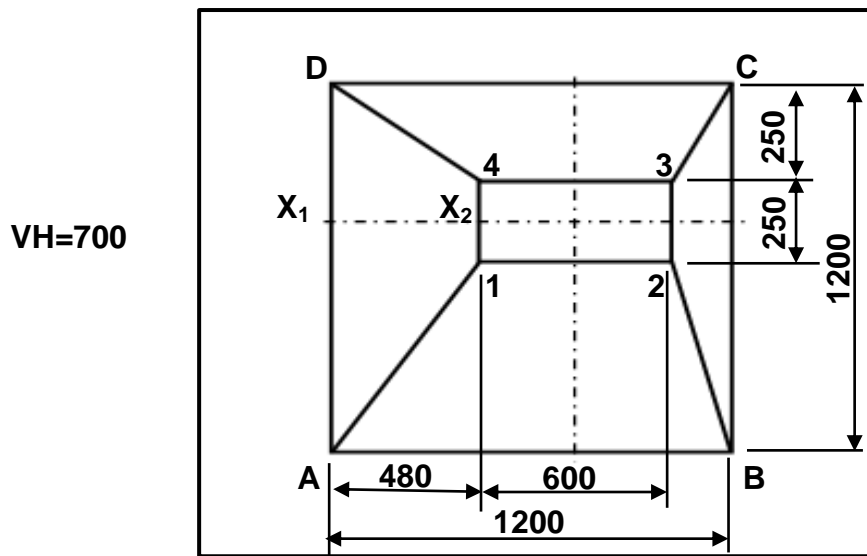

FIGURE 11.3
11.3 FIGURE 11.3 below shows a hopper off-centre.